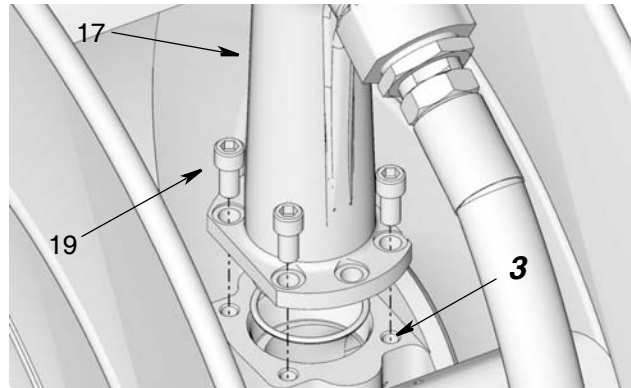

FIG. 56: Low Pressure Model (shown)
- c. Reinstall outlet (17) to swivel (3). Replace and tighten all screws (19) securely. Torque bolts to 24 to 30 ft. pounds (32.54 to 40.67 N.m) (FIG. 56).
- Low Pressure Models (shown in FIG. 56) use 4 screws (19).
- Medium Pressure Models (not shown) use 6 screws (19).